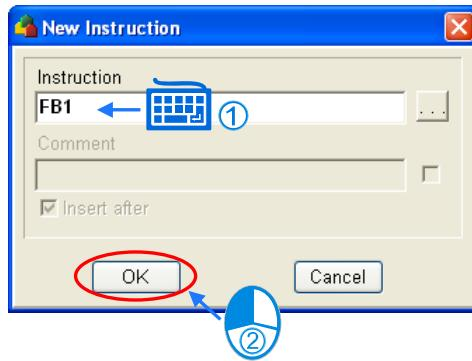

Figure 12-31 Typing a function block definition
- When the users type a function block definition, the **New Instruction** window appears. (The function block definition that the users type is case-insensitive.) After the users type a function block definition in the **Instruction** box, they have to press Enter on the keyboard, or click **OK** in the **New Instruction** window. Please see figure 12-31.